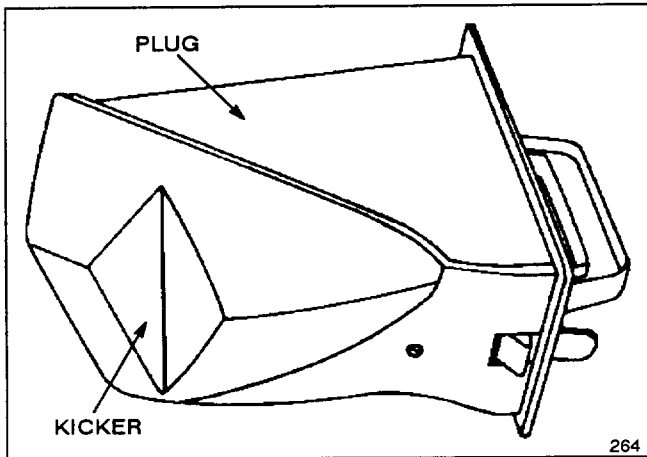

Figure 10
- C. A special plug which locks into the mower's discharge tunnel (a fifth kicker is on the plug) (Fig. 10)
Although the plug is used only for recycling, it is possible to mow without using the plug by closing the discharge tunnel door. However, your recycling will be much more effective if you use the plug. It has an additional kicker (Fig. 10) that helps drive the clippings down into the grass.